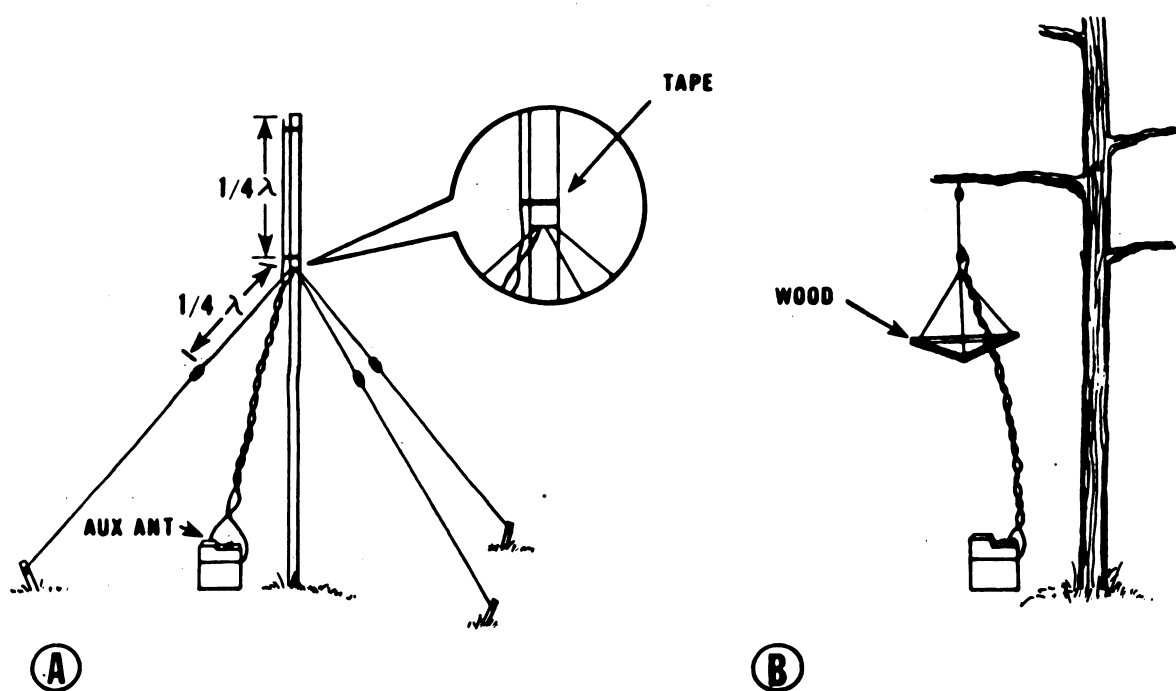
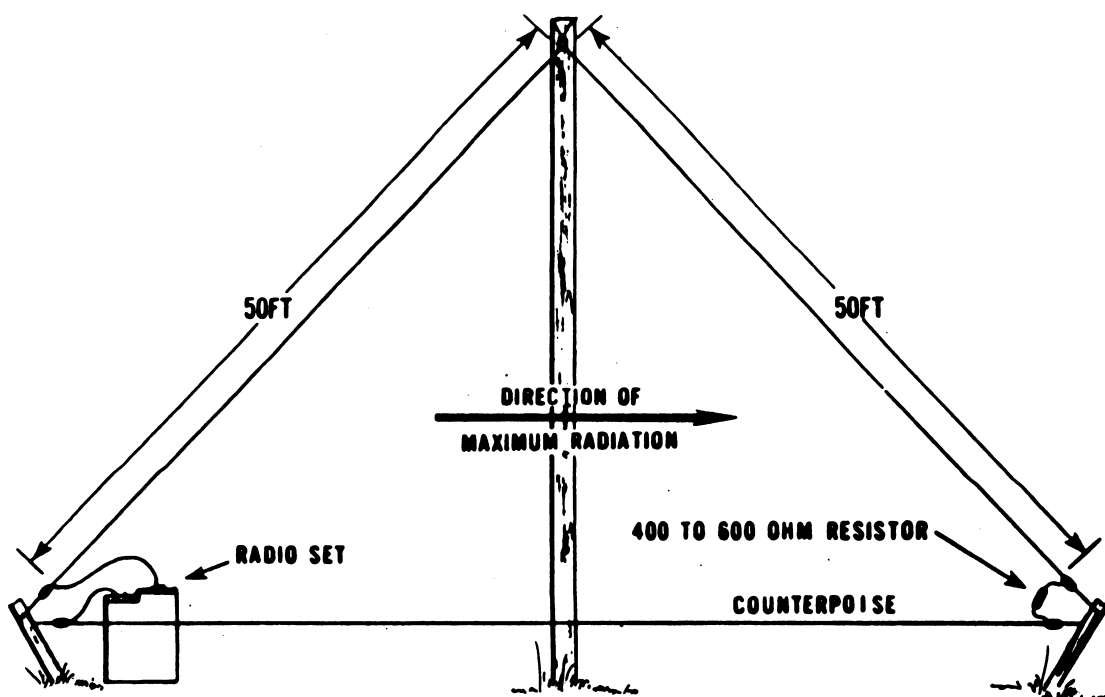

Figure 5. Jungle antenna.
Figure 6. Half-rhombic antenna.
5. Other Antennas. If you are operating outside the normal range of FM radio sets, an antenna system that will allow communication beyond the normal range of current radios can be constructed by using the jungle antenna (fig. 5) or the half-rhombic antenna (fig. 6).